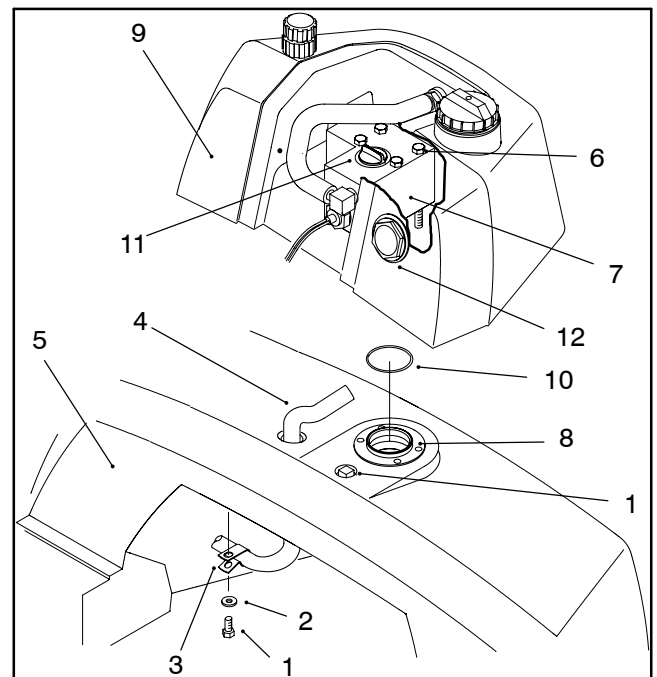

Figure 90
5. Remove cap screw and flat washer securing R-clamp and leak detector harness to the underside of the hydraulic tank. Pull clamp free of harness (Fig. 90).
7. Loosen four cap screws securing the valve assembly to the fill neck on the hydraulic tank. Lift leak detection tank from the hydraulic tank. Remove O-ring from fill neck boss (Fig. 90).
4. Clean mating surfaces of block and fill neck with a clean, dry rag. Carefully place new O-ring over fill neck boss (Fig. 90).
5. Route wire harness through access hole in hydraulic tank. Align valve assembly with fill neck. Secure valve to hydraulic tank fill neck with four capscrews (Fig. 90).
7. Remove plug from top of the valve assembly. Carefully fill float cavity to the top of the threads. Replace and tighten fill plug. Clean up any spilled oil (Fig. 90).
10. Secure cover plate and cap tether to the leak detection tank with five cap screws and flat washers (Fig. 90).
11. Fill leak detection tank to the top of sight gauge (Fig. 90).